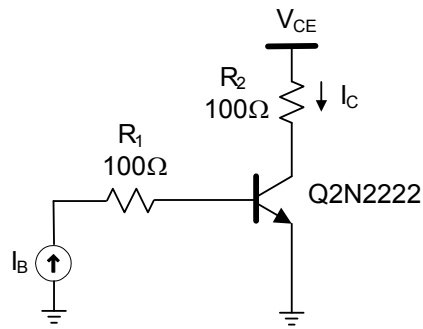

Fig. 5. BJT transistor circuit 3
6. Construct the circuit in Fig. 5 in PSpice. Place a current marker on the collector of the Q2N2222. A second DC Sweep is required to generate the output characteristics. First select DC Sweep and set it up for sweeping  $V_{CE}$  from 0 V to 6 V with linear increments of 5 mV. Then select Nested Sweep and set that up for sweeping  $I_B$  from 0  $\mu$ A to 50  $\mu$ A with linear increments of 5  $\mu$ A. Make sure to select *Enable Nested Sweep*.
8. Set  $V_{CE}$  shown in Fig. 5 to 5 V and do a linear sweep starting at 0 and ending at 30  $\mu\text{A}$  with a linear increment of 5  $\mu\text{A}$ . Find the DC and AC current gain  $\beta_{DC}$  and  $\beta_{ac}$  of the transistor. Remember,  $\beta_{DC}$  and  $\beta_{ac}$  are defined by (3) and (4), respectively.